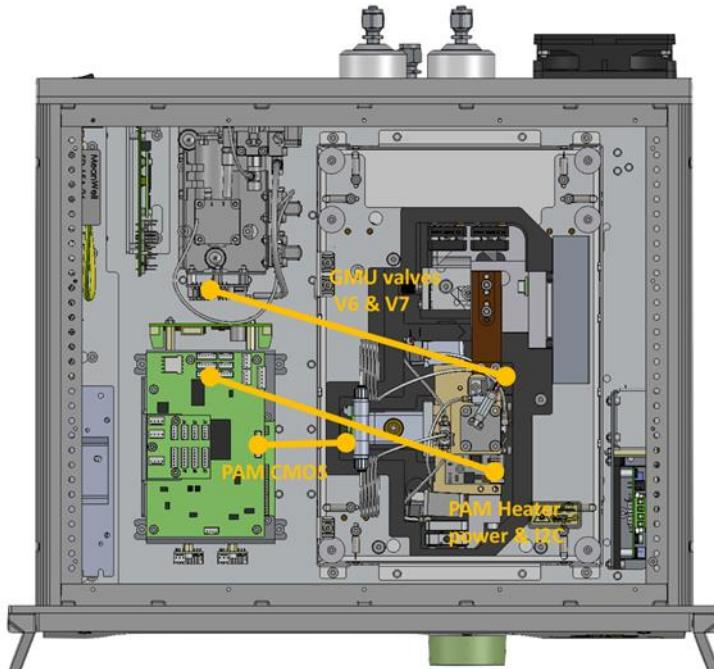

Figure 46. Electrical connections of the PA Module in GASERA ONE.
1. Disconnect electrical cables, see Figure 46 and Cable specification